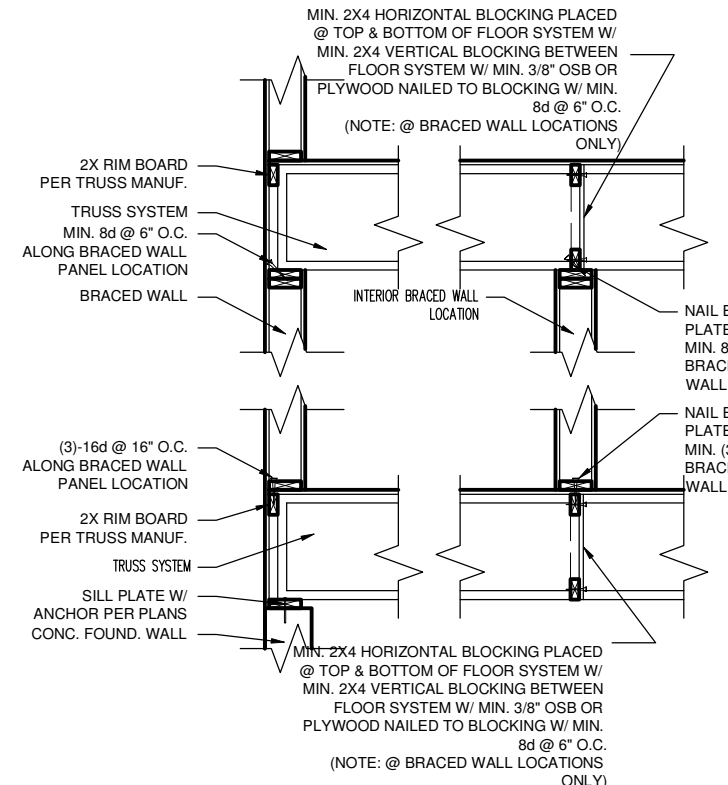

FIGURE 5
- MINIMUM 1/2" GYPSUM BOARD APPLIED TO EACH SIDE OF 2X4 (OR) 2X6 STUD WALL @ 16" O.C. SPACING OF STUDS W/ DOUBLE TOP PLATE AND SINGLE BTM.
- (PERPENDICULAR WALL/FLOOR) ALL FLOOR SYSTEMS BETWEEN BRACED WALL PANELS TO HAVE A MIN. 2X4 TOP & BOTTOM BLOCKING BOARD PARALLEL TO BRACED WALL PANELS W/ MIN. (3) 16d NAILS ATTACHING BOTTOM/TOP OF BRACED PANEL PLATE TO FLOOR SYSTEM AT BRACED PANEL WIDTH ONLY. 2X4 BLOCKING TO BE SET BETWEEN FLOOR SYSTEM MEMBERS. SOLID RIM MAY BE USED (FIG. 5 & 6).
- MINIMUM 1/2" GYPSUM BOARD APPLIED TO EACH SIDE OF 2X4 (OR) 2X6 STUD WALL @ 16" O.C.
- (PERPENDICULAR WALL/FLOOR) ALL FLOOR SYSTEMS BETWEEN BRACED WALL PANELS TO HAVE A MIN. 2X4 TOP & BOTTOM BLOCKING BOARD PARALLEL TO BRACED WALL PANELS W/ MIN. (3)16d NAILS ATTACHING BOTTOM/TOP OF BRACED PANEL PLATE TO FLOOR SYSTEM AT BRACED PANEL WIDTH ONLY. 2X4 BLOCKING TO BE SET BETWEEN FLOOR SYSTEM MEMBERS. SOLID RIM MAY BE USED (FIG. 5 & 6).